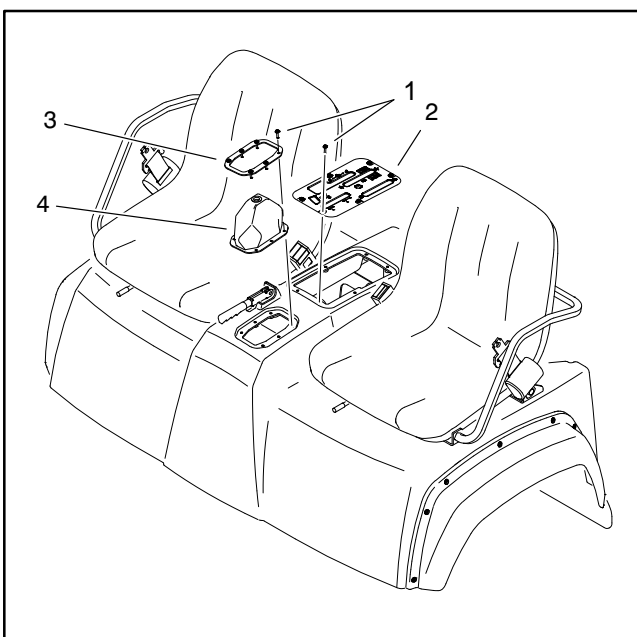

Figure 48
2. Remove knob from gear shift lever, then remove boot plate and shifter boot from seat base (Fig. 48). Additional access may be necessary and can be obtained by removing the control plate.
3. Use a multimeter (ohms setting) to test continuity across the switch terminals. Disconnect the wire harness connector from switch. Check continuity across the two (2) switch terminals. There **should be** continuity (zero ohms) when the parking brake is released and there **should not be** continuity (infinite ohms) when the parking brake is engaged.